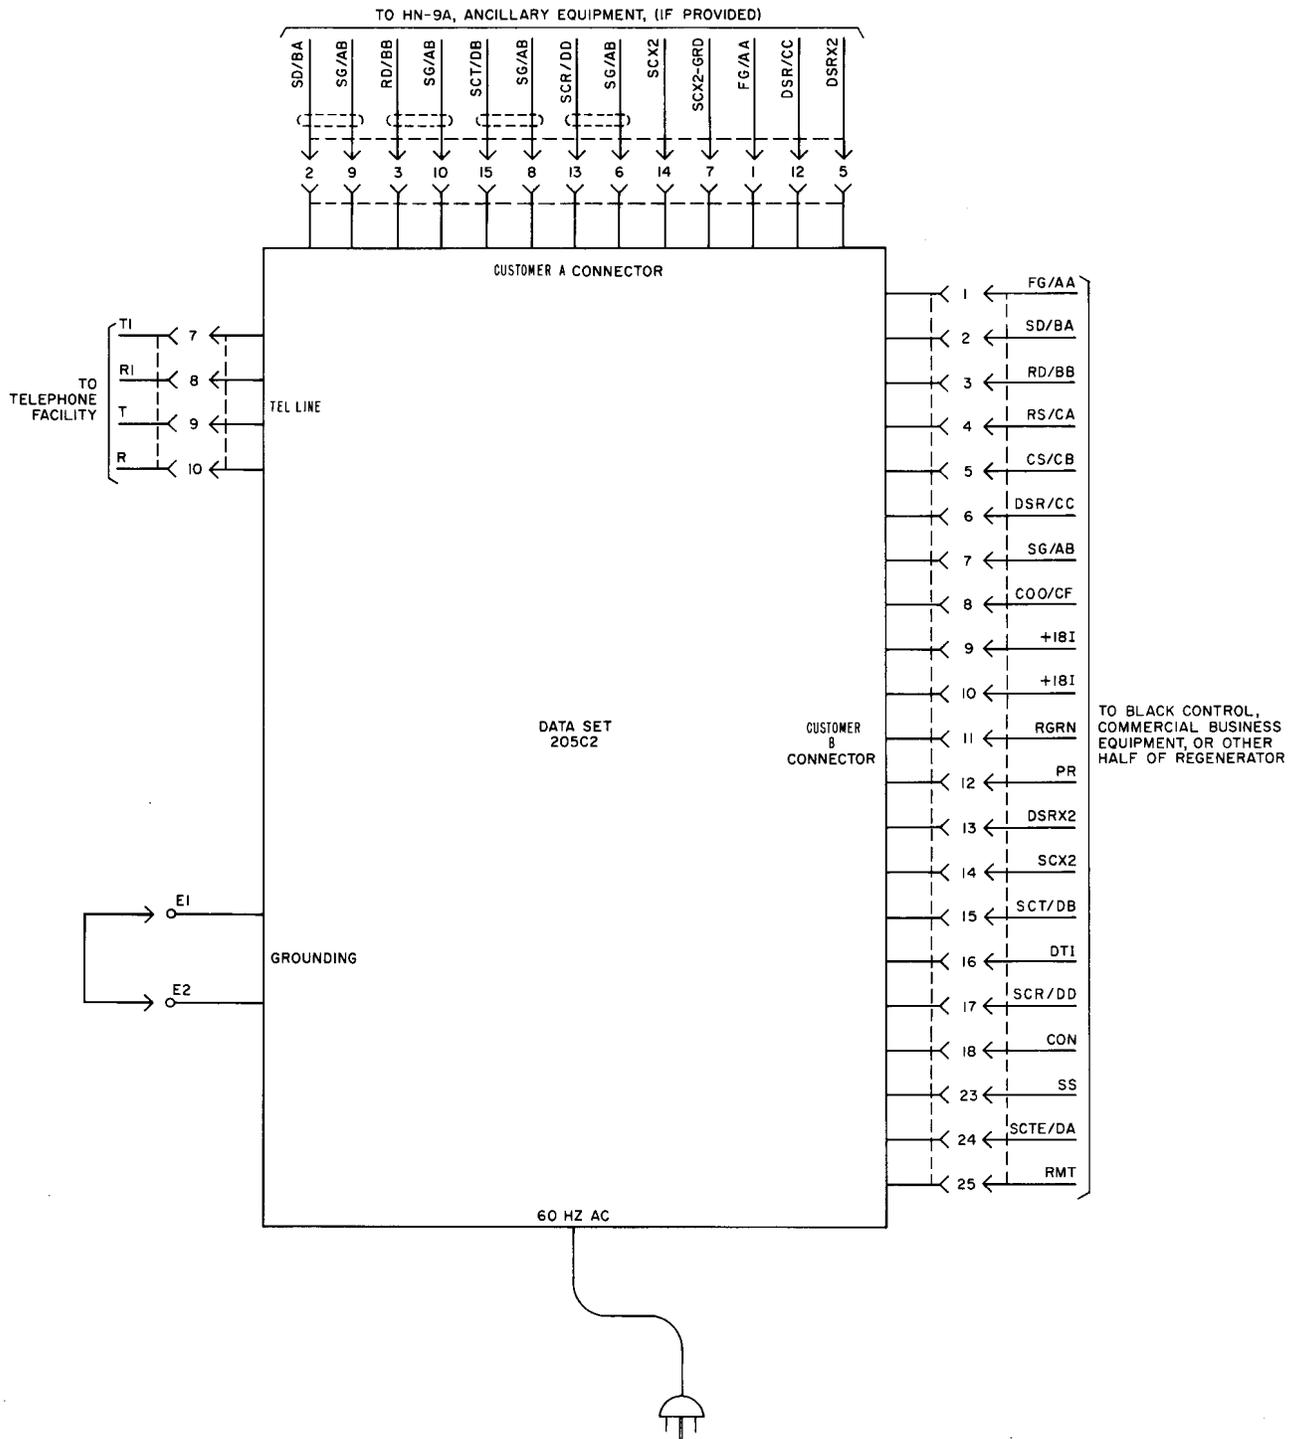

Fig. 3 — Interface Connections
(2) the telephone facility and transfer arrangement, and (3) the data set ac power. The ac power connection is covered in 3.10 and will not be described in this part. The interchange with the customer business machine(s) include the data, clock, and control signals.
6.02 Electrical connections between the data set and the customer business machine(s) (except for ac power and frame ground) are made through the CUSTOMER B and CUSTOMER A interface connectors. The pin assignments for all data set interface leads are given in Table C and illustrated in Fig. 3.